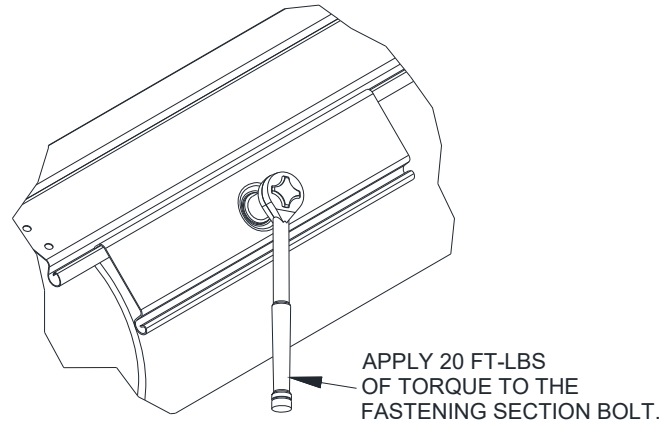

Figure 8.1 - Installing the Fastening Section
6. Uncoil the curtain enough for the fastening sections to reach the attachment points on the shaft. Fasten them by aligning the fastening section with the hole in the ring or shaft respectively, and fasten using the provided hardware (See **Figure 8.1**). If the curtain is too heavy to uncoil by hand, use the method described in the following step to get the fastening sections in position.